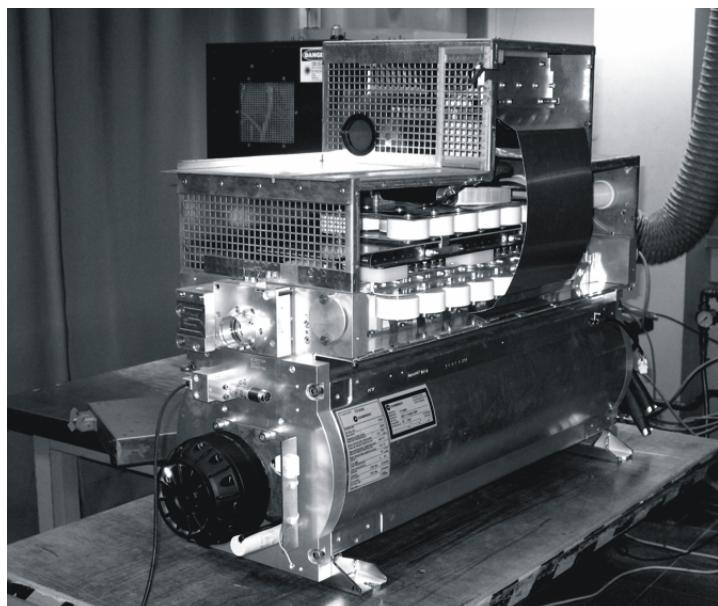

Figure 29: Laser tube with auxiliary components on transport cart
35. Carefully pull the laser tube past the two feet and out of the laser housing onto the transport cart (see Figure 29).